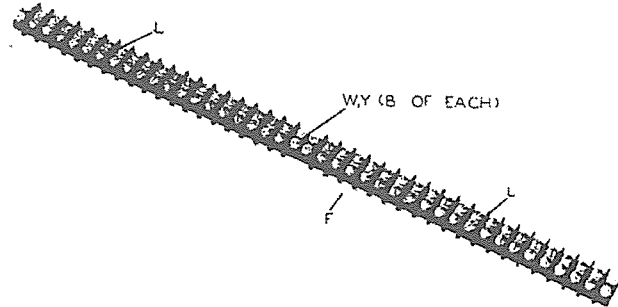

Figure 2-2. 499G-1 Rack Mounting Shelf, Terminal Strip
**2.2.3.3 TERMINAL STRIP ASSEMBLY.** (See figure 2-2.) The terminal strips, item L, must be mounted on metal strip, item F, before they are ready for final assembly onto the shelf.